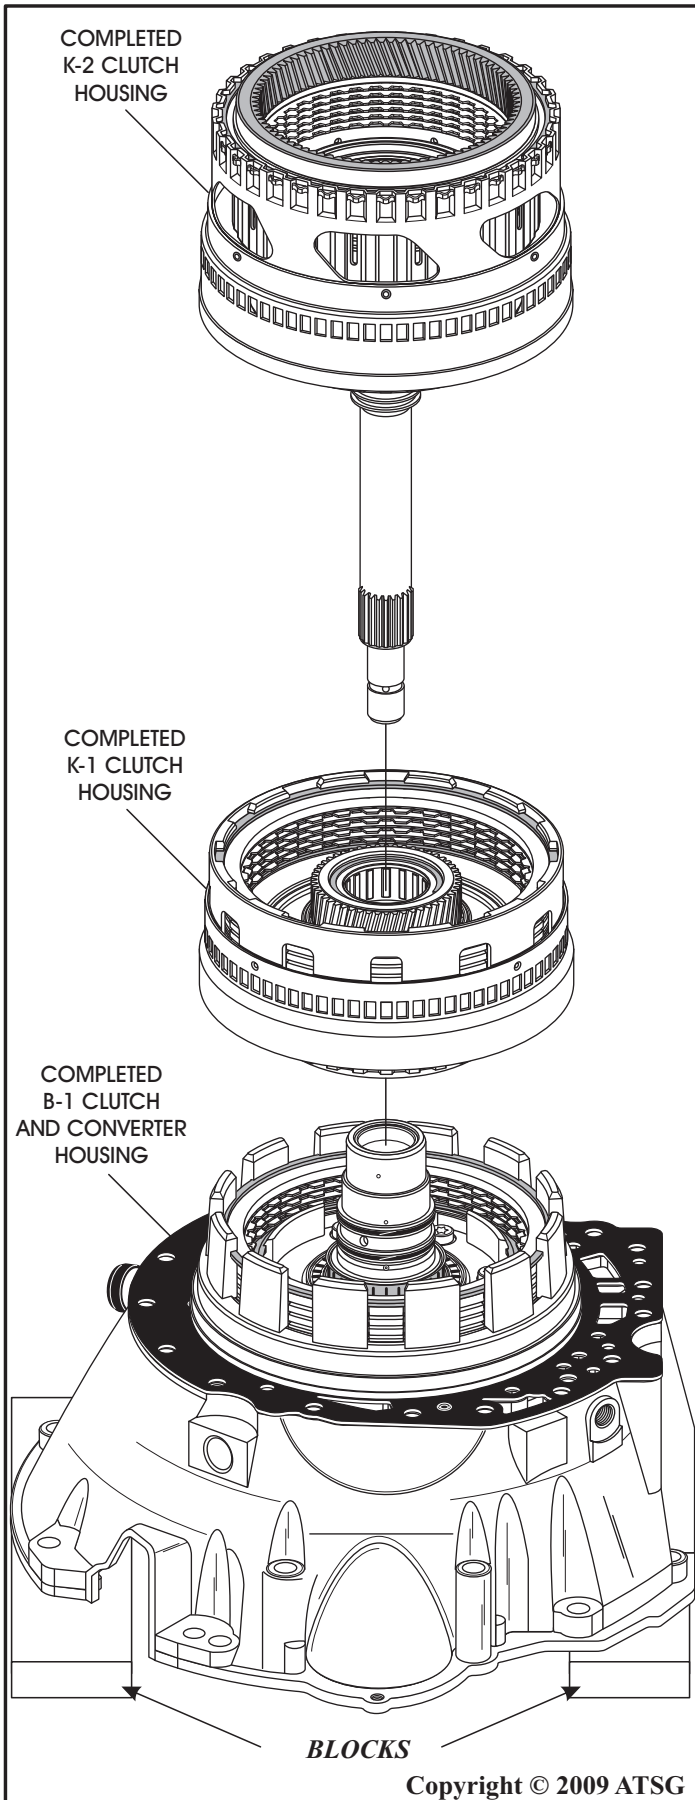

Figure 181
14. Lay completed converter housing, oil pump and B-2 clutch on work bench face down, as shown in Figure 181, on blocks, as the turbine shaft protrudes past the face of converter housing.
15. Ensure No 2 & 3 thrust bearings are still in place and install completed K-1 clutch housing into the B-1 clutches, as shown in Figure 181, by rotating back and forth until fully seated.
16. Install completed K-2 clutch housing into the K-1 clutches, as shown in Figure 181, by rotating back and forth until fully seated.